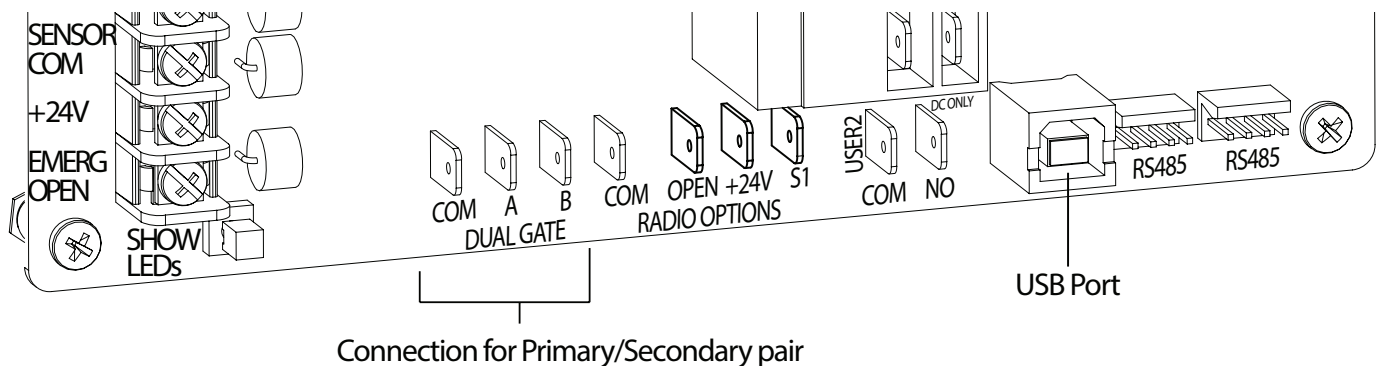

Figure 63. Primary-Secondary Pair
- An electrical conduit for interconnecting wires must span between the two operators. The dual gate communication wires and any low voltage control wires must be installed in a conduit that is separate from the high voltage power wires. See Figure 63.
1. As shown in Figure 63, connect a two-pair twisted shielded communications cable to the DUAL GATE inputs in each unit. The inputs are located near the base of the Smart DC Controller. Be sure to connect the wires in pairs to the same terminal ports (A-A, B-B, and COM to COM) on both units. See Table 15.
2. Attach a ring terminal to the shield wire and connect it to the Smart DC Controller's convenient ground screw. Refer to Figure 63.